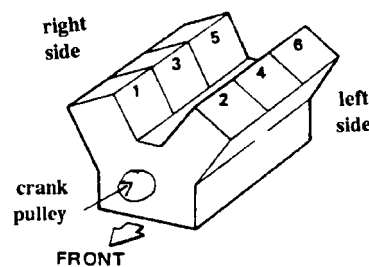

Figure 6
**NOTE:** All references to locations on the engine are taken from the flywheel looking forward with respect to the engine. The right hand cylinder head is closest to the windshield and the left hand cylinder head is closest to the radiator. (Figure 6)